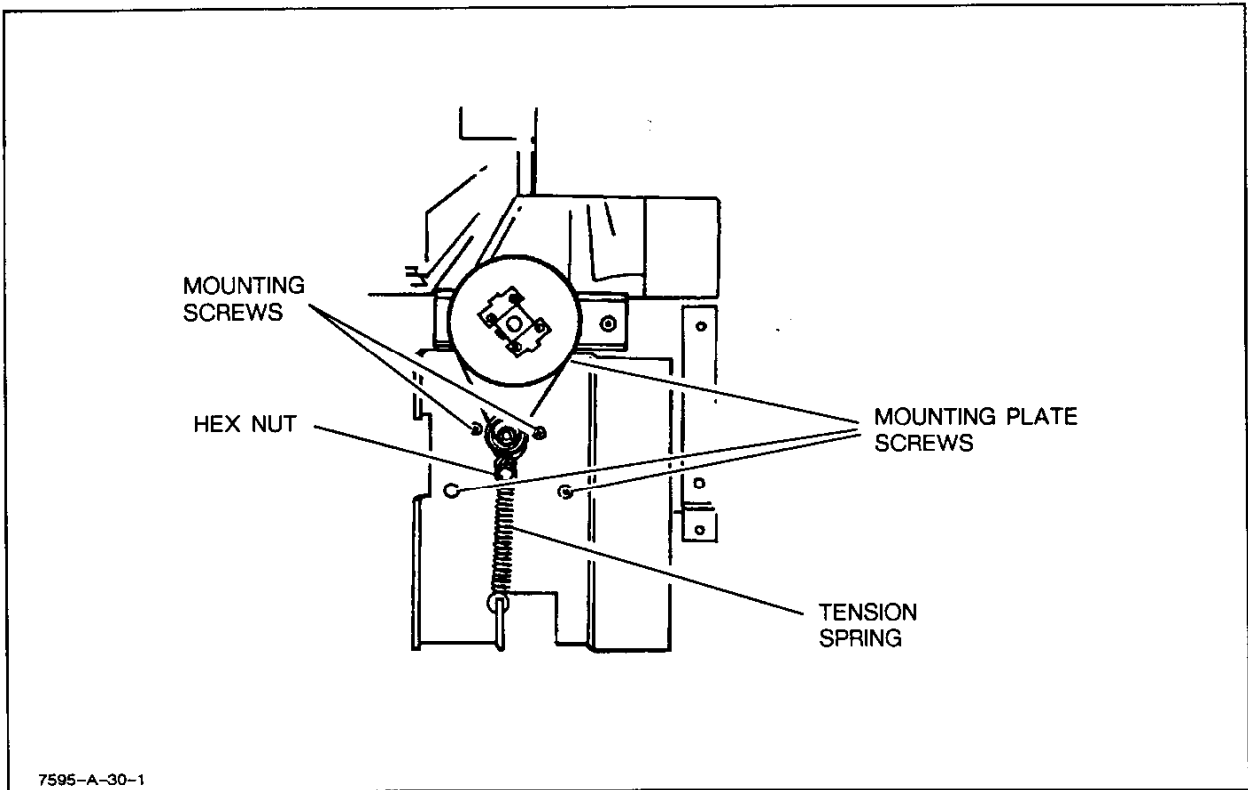

Figure 6-41. Grit Wheel Drive Motor Removal
- a. Turn the plotter line switch to OFF (O) and disconnect the ac power cord.
- c. Remove the grit wheel drive belt tensioning spring. See Figure 6-41.